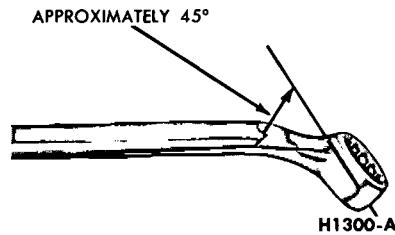

FIG. 4—Wrench for Bleeding Brake
1. Position a suitable $\frac{3}{8}$ -inch box wrench (Fig. 4) on the bleeder fit-
3. Position a $\frac{3}{8}$ -inch box wrench (Fig. 4) on the bleeder fitting on the right rear brake wheel cylinder. Attach a bleeder tube to the bleeder fitting. **The end of the tube should fit snugly around the bleeder fitting.**
③ CLEANING AND INSPECTION